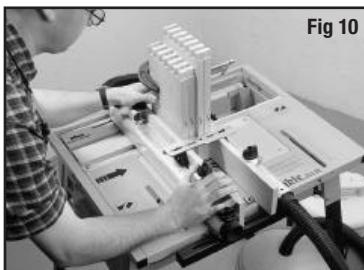

Fig 10
#### **Jointing four sides at once (Fig. 10)**
2. Adjust the fence to fit all pieces at once. Rest the boards against the initial cut stop, offset in equal length pairs, and G-clamp together. Fig. 10